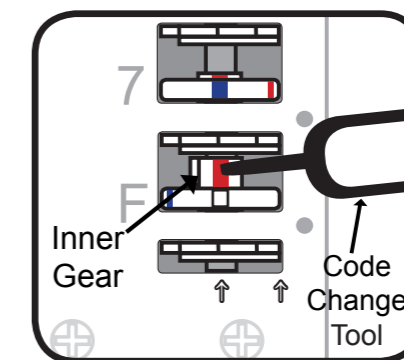

Fig.2
1. To turn off the free passage function – insert the code change tool (part no.19) into the small hole in the top of the inner gear and then it can be lifted upwards, this will expose a red line on the inner gear (as per fig.2).